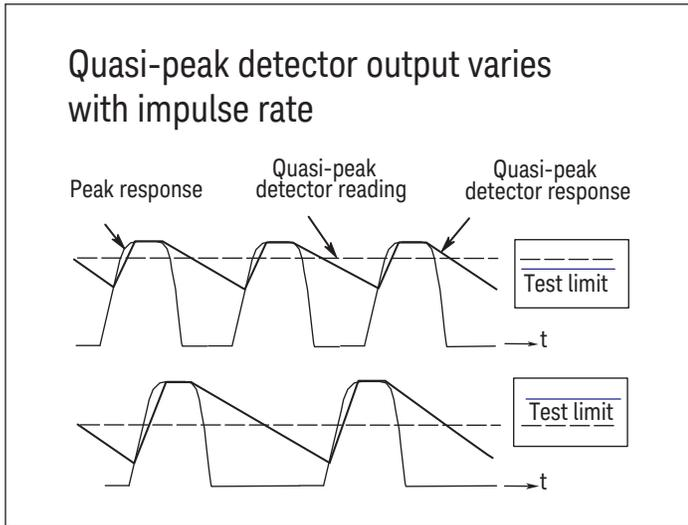

Figure D-2. Quasi-peak detector response diagram
Most radiated and conducted limits are based on quasi-peak detection mode. Quasi-peak detectors weigh signals according to their repetition rate, which is a way of measuring their annoyance factor. As the repetition rate increases, the quasi-peak detector does not have time to discharge as much, resulting in a higher voltage output (See Figure D-2). For continuous wave (CW) signals, the peak and the quasi-peak are the same.